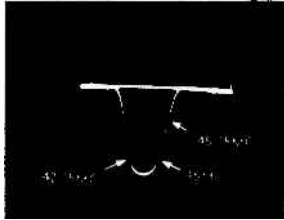

Fig. 19 Overall IF Response.
8. With the test equipment set up as in Step 7, alternately adjust the 2nd IF, 3rd IF, 1st IF and the converter plate coil until an overall response curve similar to Fig. 19 is obtained. It will be found that the 2nd IF affects the low side (42.75 Mc) and the 3rd IF the high side of the response curve. If the proper response curve cannot be obtained by an alternate adjustment of the above trimmers, it may be necessary to retouch the 4th IF transformer.